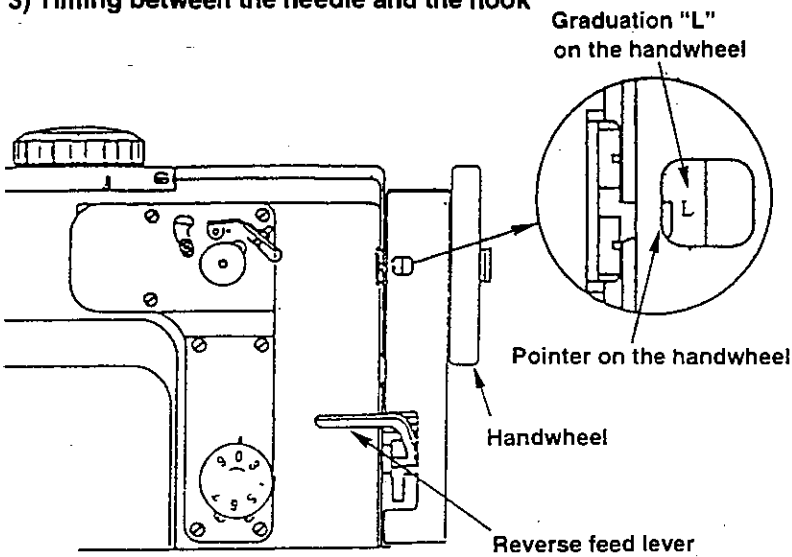

Fig. 1
<ol style="list-style-type: none"> 1. Remove the throat plate. 2. Set the stitch dial at "0" on the scale. 3. Loosen clamping screw ❶ in the hook driving shaft set collar. (Fig. 2) 4. Slightly loosen attaching screws ❷ and ❸ in the hook driving shaft saddle. (Fig. 3) 5. Move the hook driving shaft saddle in the right or left to adjust the clearance provided between the needle and the blade point of hook to 0.05 to 0.1 mm. (Fig. 1) 6. At this time, adjust the effective amount of the needle guard to 0.15 to 0.2 mm by turning adjusting screw ❹. 7. Turn eccentric pin ❺ of the hook driving shaft saddle with a screwdriver to move the hook driving shaft saddle in the opposite direction of the operator (in the direction of arrow) until it will go no further. (Fig. 4) 8. Fix the hook driving shaft saddle holding it in the state described in step 7 by tightening screws ❸ and ❷ in the hook driving shaft saddle in the written order. (Fig. 5) 9. Confirm that the needle-to-hook timing is correct. If the timing is correct, tighten clamping screw ❶ in the hook driving shaft set collar. (Fig. 2) If not, adjust the timing between the needle and the hook properly. (Refer to "Timing between the needle and the hook" on page 15.) 	<p>☆ If the clearance between the needle and the blade point of hook is too large : Stitch skipping and improper threading may result.</p> <p>☆ If the clearance between the needle and the blade point of hook is too small : The needle may interfere with the blade point of hook. As a result, the blade point of hook may be damaged and thread breakage may be caused.</p> <p>At this time, confirm that clearances ❶, ❷, ❸ and ❹ in the hook driving shaft coupling are respectively adjusted to 2.5 ± 0.3 mm. If not, adjust the clearances properly.</p>